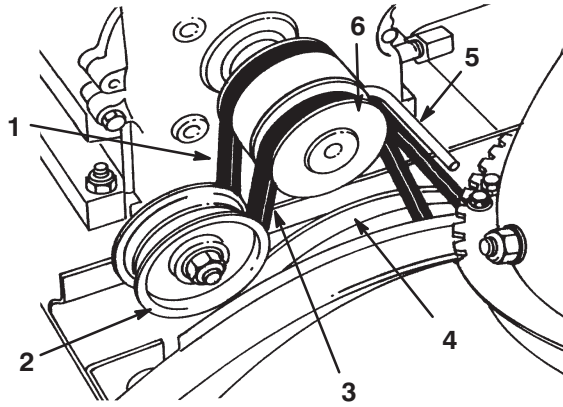

**Figure 21**
5. Loosen the flange nuts that secure the selector plate to the control panel (Fig. 21).